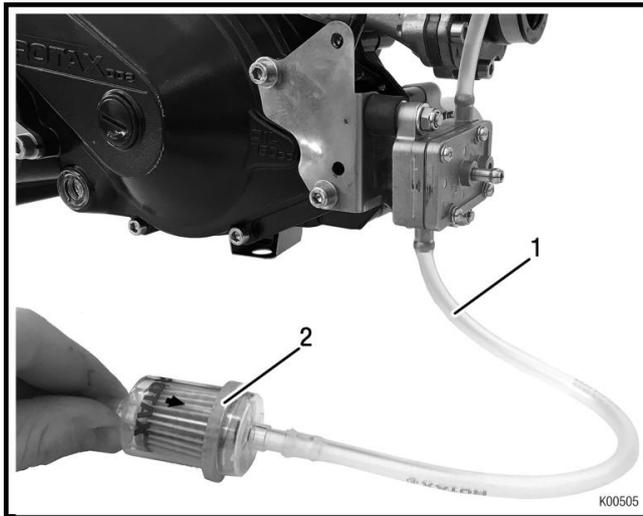

Fig. 4
- ➔ The larger fuel hose (pos. 1) should be connected to the fuel filter (pos. 2) and to the fuel tank. See Fig. 4.